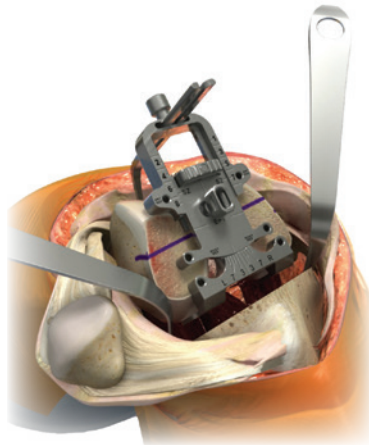

Figure 16
1. Place the Femoral Sizer Guide flush to the resected distal femur by using the quick connect handle to ensure both the posterior paddles of the Femoral Sizer Guide are in contact with the underside of the posterior condyles (Figure 16).